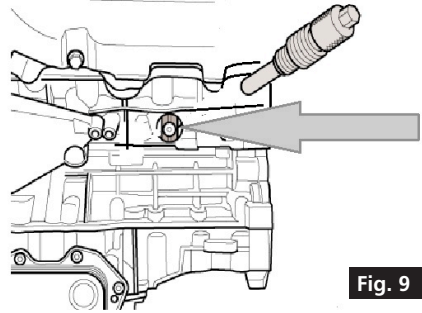

Fig. 9
**Component F** - Crankshaft locking pin for 2.4/3.2 V engines. See Fig. 9.